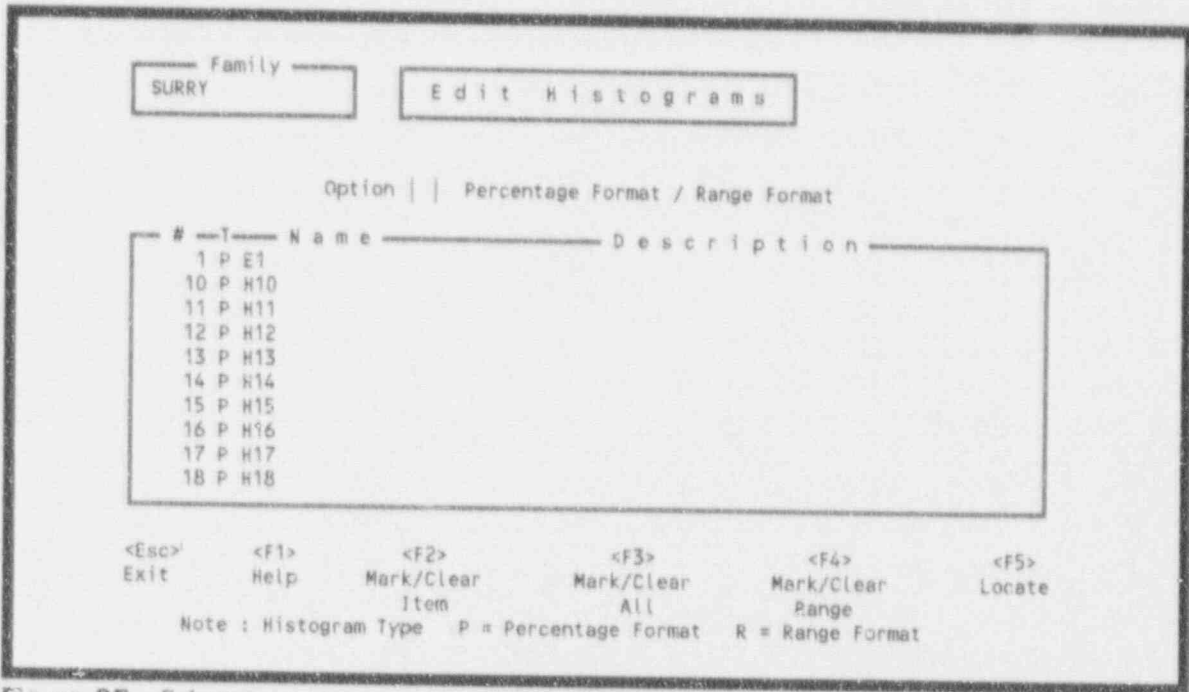

Figure 25. Select percentage or range format for the histogram.
**3.2.7.2 Add Histograms.** This option allows you to create a user-defined distribution type. To add a new histogram to the data base, type an <A> (Add) in the option field and press <Enter>. At this point, Figure 25 is displayed and you are given the choice of adding the histogram data in either a percentage format or in a range format.